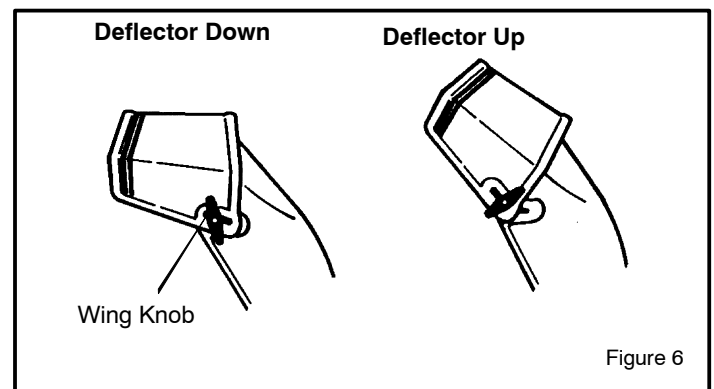

Figure 6
2. Loosen the **wing knob** on the chute deflector and move the deflector to set the distance. Move the deflector (**Up**) for more distance, (**Down**) for less distance. Then tighten the **wing knob** (See Figure 6).